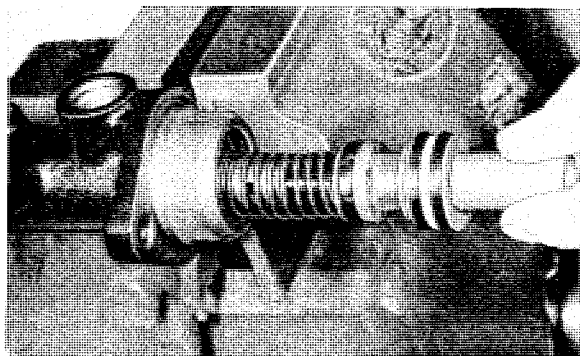

Fig. 5-52. Fitting primary piston
4. Dip the piston and the seals in brake fluid and install the piston in the cylinder, see Fig. 5-52. Press in the piston and fit the circlip (5, Fig. 5-48).